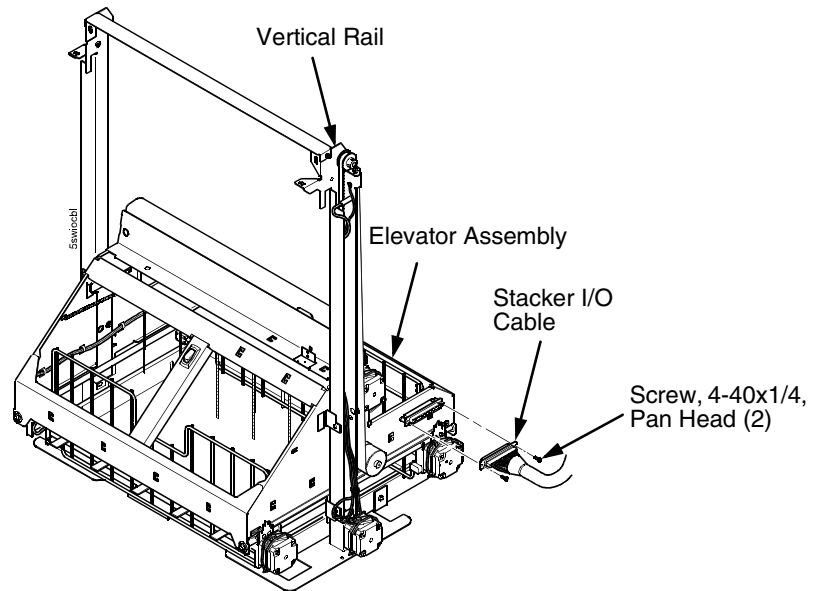

Figure 83. The Elevator I/O Cable
(Figure 83.)
13. Connect the elevator I/O cable to the elevator assembly and install the two 4-40 x 1/4 inch screws, as shown in Figure 83.